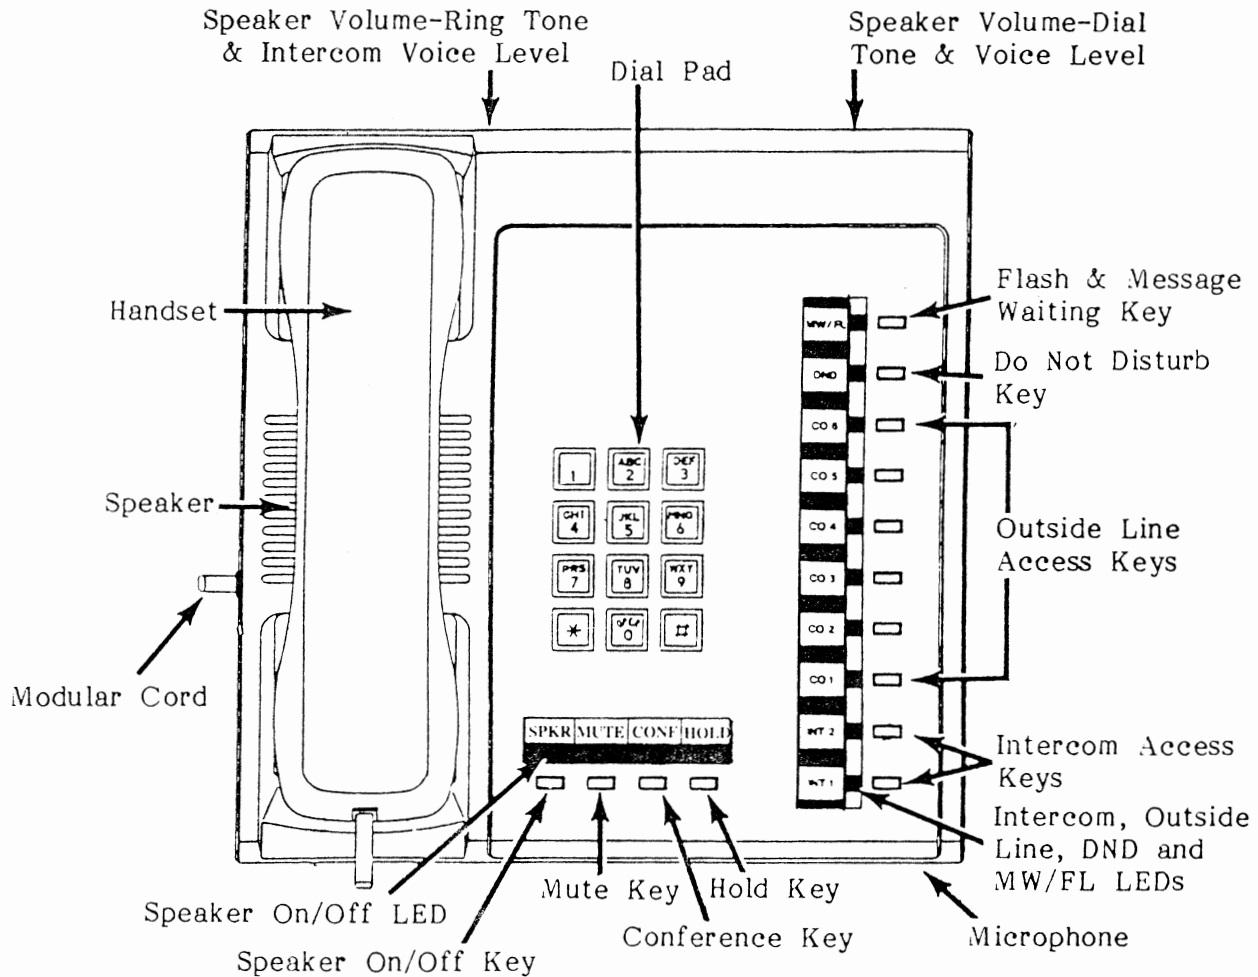

FIGURE 3
**01.13** The STRATA VI electronic key telephone (EKT) (Figure 3) measures: